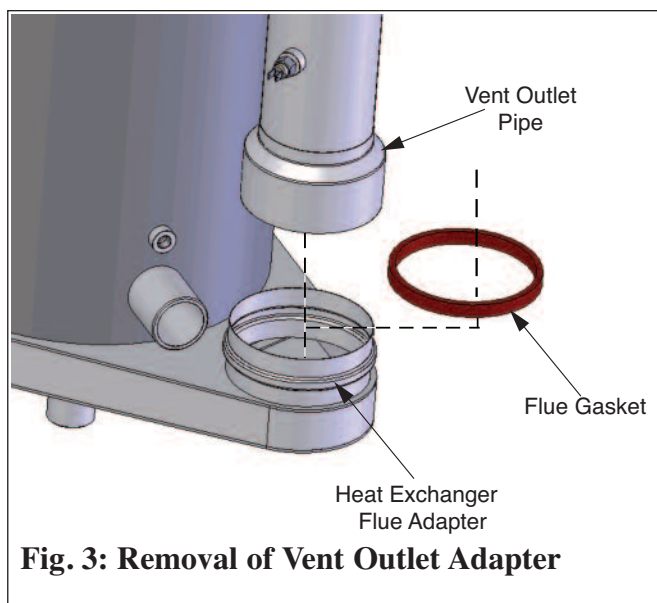

Fig. 3: Removal of Vent Outlet Adapter
2. Remove entire vent outlet adapter by lifting vertically upward and out of the boiler cabinet using a twisting / rocking motion (Fig. 3).